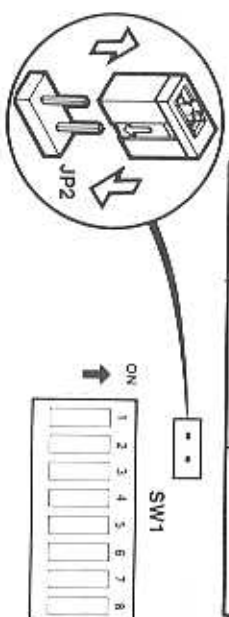

Figure 7-3. Memory Mapping
Use Table 7-1 or the memory maps shown in Figure 7-3 to help you determine the amount of memory your system will be using.
*Memory mode corresponds to Figure 7-3.
Setting the memory expansion board switches depends on how the system board memory switches (and jumper plug) are set. The expansion memory must be contiguous. Therefore, the system board memory settings determine the starting address (1M byte or 1.5M byte) for the expansion memory. Refer to Table 7-1 and Figure 7-3 in Chapter 7.